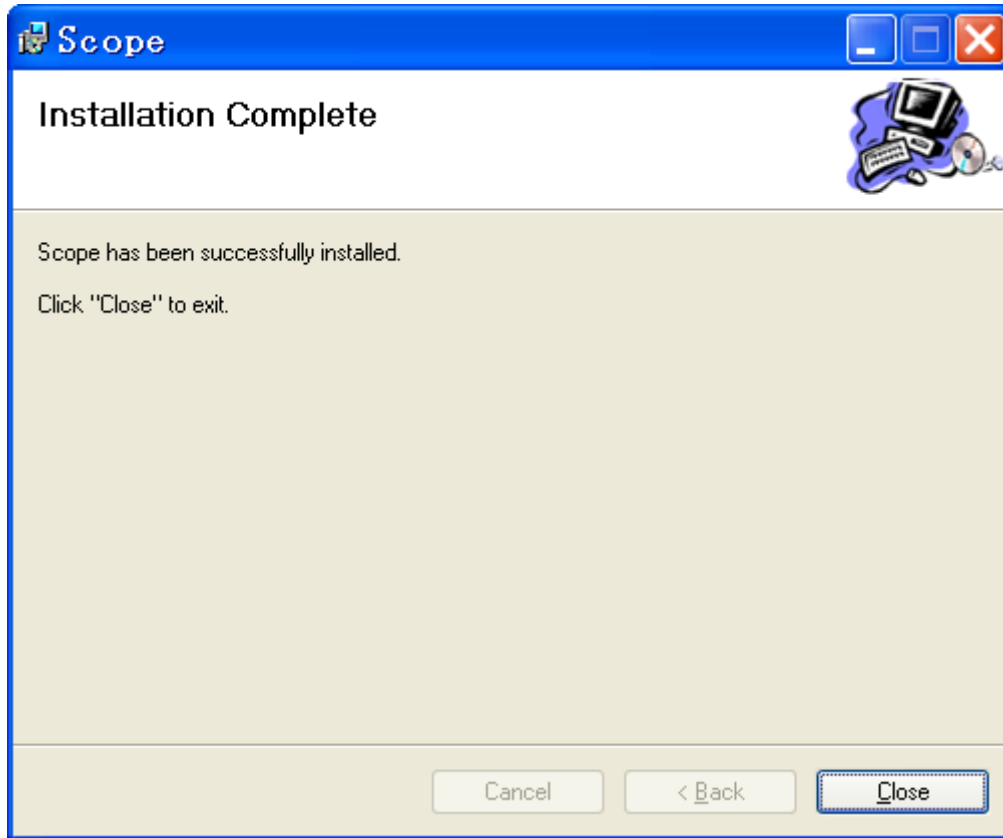

Figure2-4
2.3. Click "Close " to complete the installation, as shown in Figure 2-4.